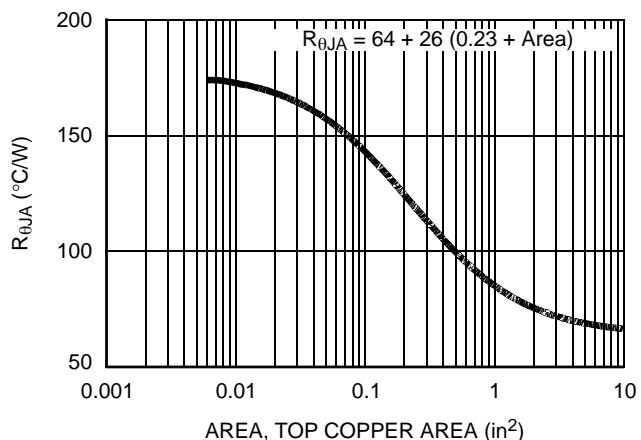

Figure 21. Thermal Resistance vs. Mounting Pad Area
**onsemi** provides thermal information to assist the designer's preliminary application evaluation. Figure 21 defines the  $R_{\theta JA}$  for the device as a function of the top copper (component side) area. This is for a horizontally positioned FR-4 board with 1oz copper after 1000 seconds of steady state power with no air flow. This graph provides the necessary information for calculation of the steady state junction temperature or power dissipation. Pulse applications can be evaluated using the **onsemi** device Spice thermal model or manually utilizing the normalized maximum transient thermal impedance curve.
Thermal resistances corresponding to other copper areas can be obtained from Figure 21 or by calculation using Equation 2. The area, in square inches is the top copper area including the gate and source pads.